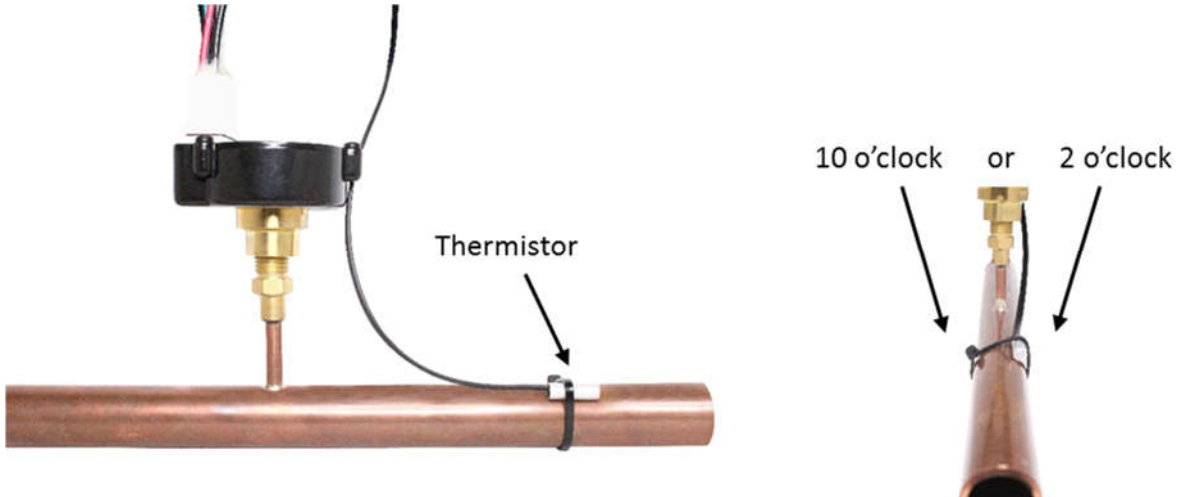

Figure 2-3 Thermistor installation
5. The thermistor can be placed anywhere the end user sees fit for their application. When thermistor is placed where there will be moisture, apply synthetic grease where wires join the thermistor shell. **Figure 2-3** shows thermistor being installed on a copper tube with a zip tie. The thermistor should be located at either the 10 o'clock or 2 o'clock position only for superheat measurements for HVAC-R applications.